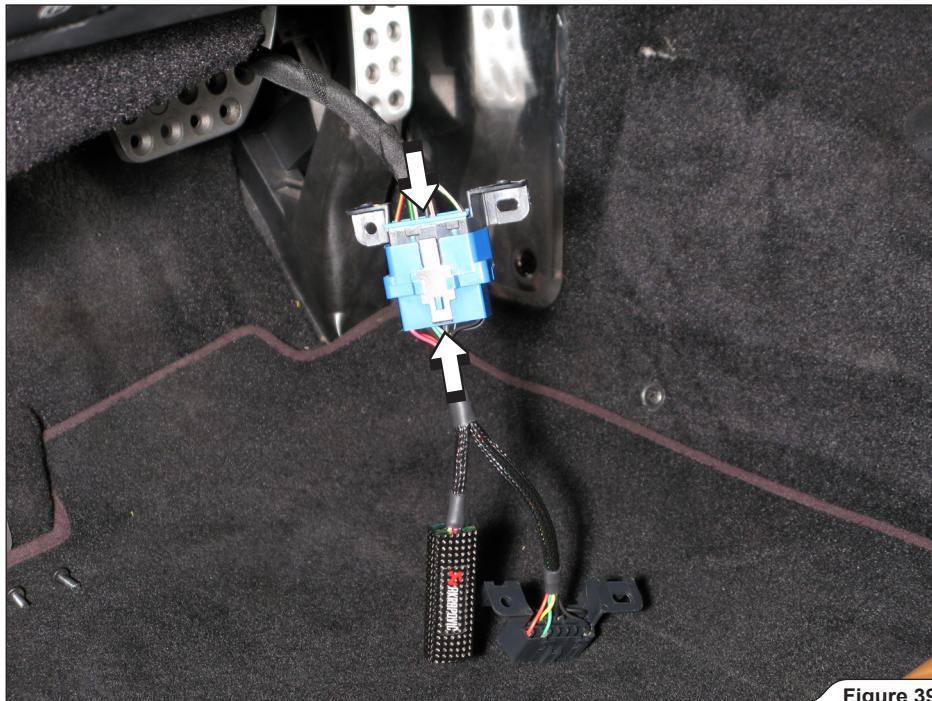

Figure 39
19. For optional Akrapovič delete-R: plug the original OBD connector into the delete-R's OBD connector (Figure 39).